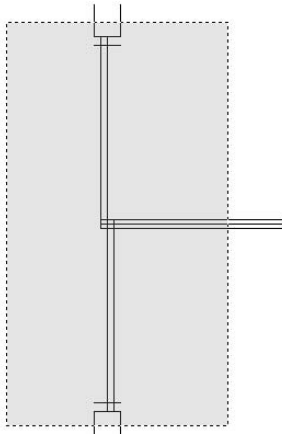

FIGURE 4.46: The crossing window for selecting cutting edges
- B.** Move the cursor to a point below and to the left of the opening, forming a semitransparent colored window with dashed boundary lines (see Figure 4.46).